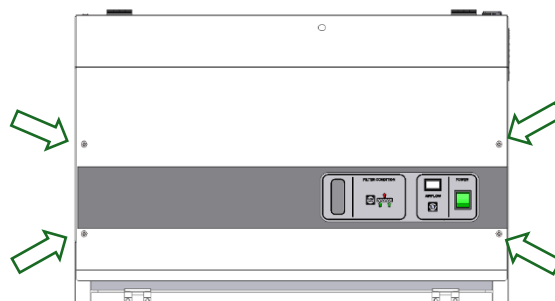

Figure 5.1
- Open the front cover by removing the 4 x M5 button head screws. Use a No.3 Allen key. See **Figure 5.1**